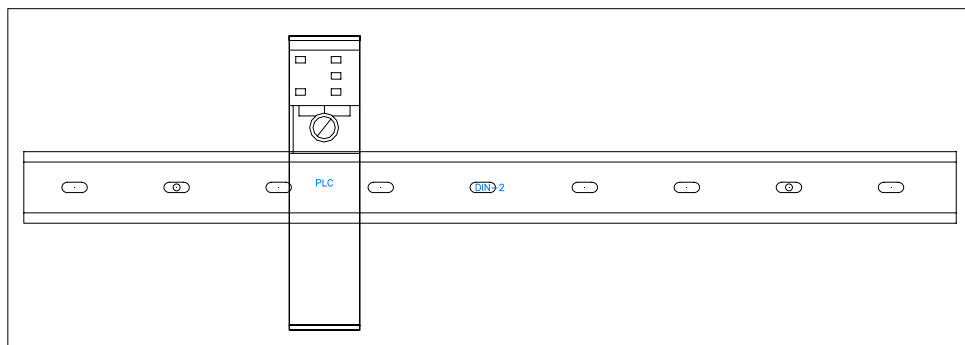

Figure P2-8 PLC inserted in the drawing
10. Choose the **OK** button; the PLC is inserted in the drawing, as shown in Figure P2-8.